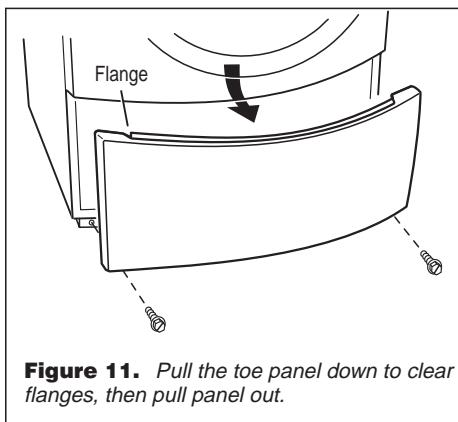

Figure 11. Pull the toe panel down to clear flanges, then pull panel out.
- If not, unplug dryer or disconnect power. Access the moisture sensor wires by removing the toe panel (page 7, figure 11) and disconnecting the sensor wires from the harness (figure 9). Go to step 8.
2. Slide the toe panel down, then pull it out from the bottom. See figure 11.